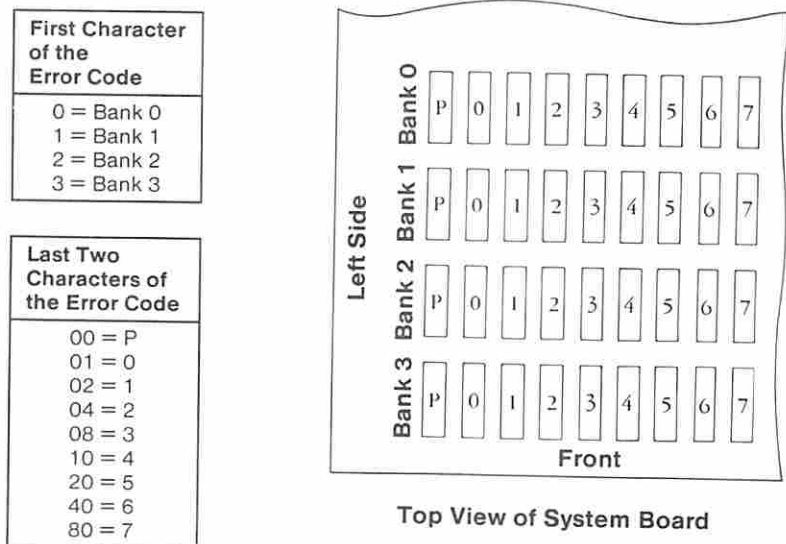

Figure 2. System Board
- Find the failing bank and module in Figure 2 on page 0200-4.